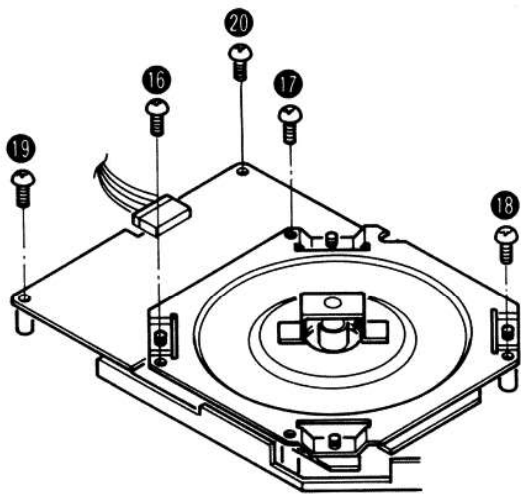

Fig. 8
2. Remove the 3 stator frame setscrews (Fig. 8 : ⑰ ~ ⑱) and the 2 drive circuit board setscrews (Fig. 8 : ⑲, ⑳).